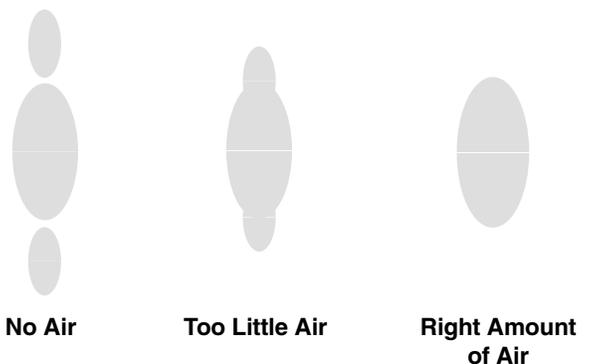

Fig. 6
- Set the atomizing air pressure at about 5 psi (0.35 bar, 35 kPa) when triggered. Check the spray pattern, then slowly increase the air pressure until the tails are completely atomized and pulled into the spray pattern. See Fig. 6. Do not exceed 100 psi (0.7 MPa, 7 bar) air pressure to the gun.